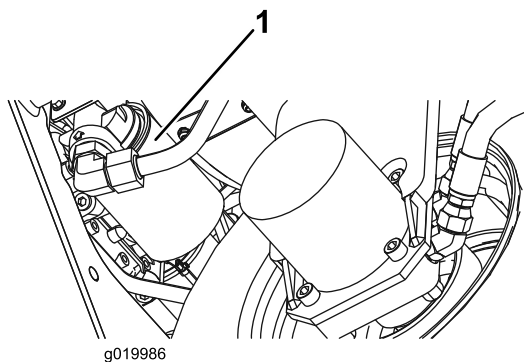

Figure 77
2. Clean around the filter mounting area. Place a drain pan under the filter (Figure 77) and remove the filter.